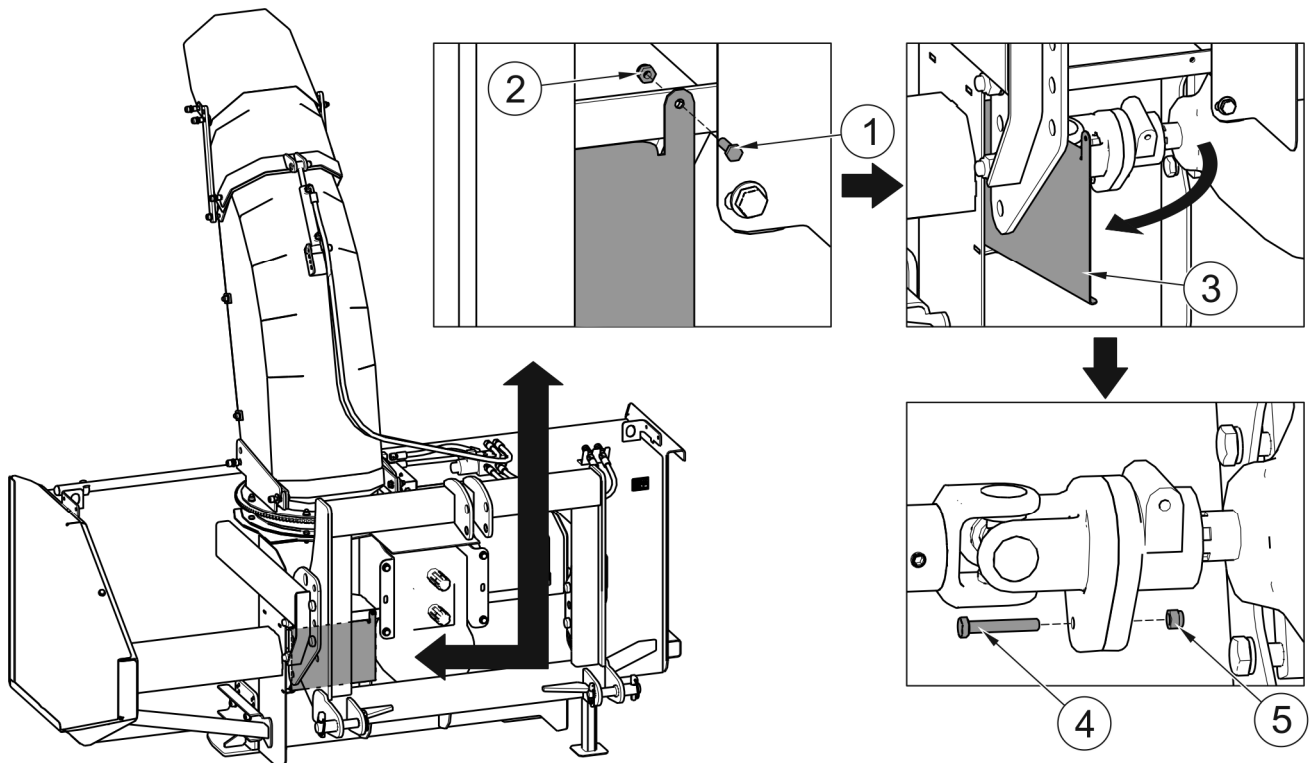

FIG. 5.4 Replacing the bolts securing the drive transmission
The snow blower's PTO shaft has a special bolt (4), which can be damaged by excessive overloading of the machine (FIG. 5.4). Before replacing bolt, check the blade, augers, discharge chute and remove the cause of machine overloading (e.g., pieces of ice, wood, stone, jammed chute, etc.) To remove blockage, use a wooden pin supplied with the machine (see 4.4.4 REMOVING BLOCKAGES).
To replace the safety bolt (FIG. 5.4), unscrew bolt (1) and open cover (3). Damaged bolt (4) should be replaced with a new one (M8x50-8.8).